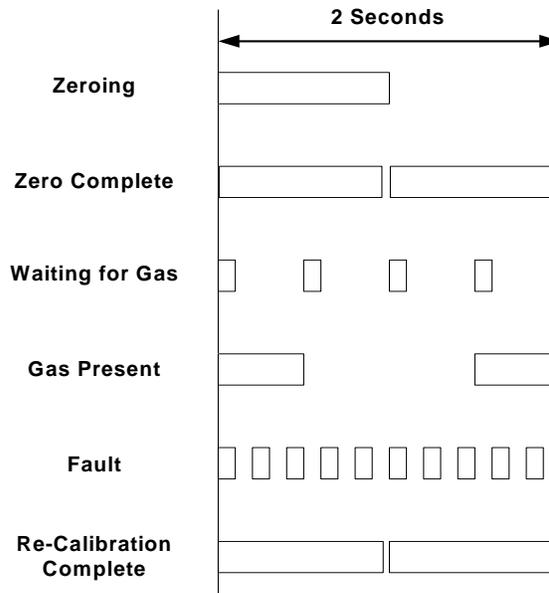

Figure 8. IR700 Zero Switch / LED During Zeroing and Calibration
- Remove the magnet and the LED will flash on for one second and off for one second to indicate that the unit is attaining a zero value (*Zeroing* in Figure 8).